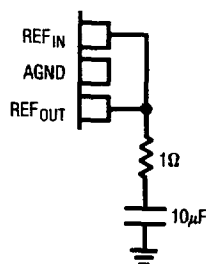
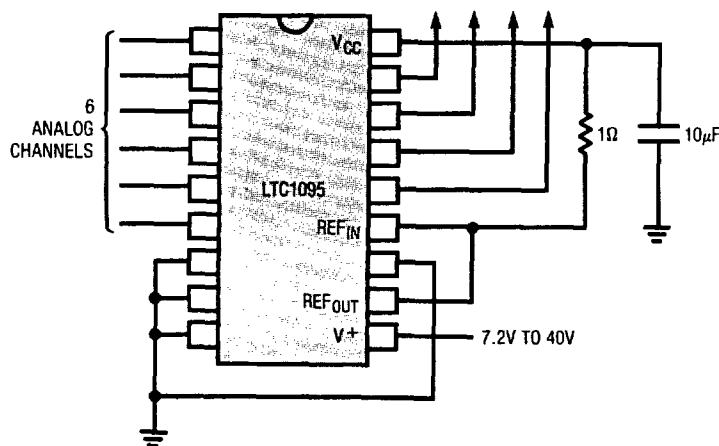

Figure 15. Suggested Circuit for  $REF_{IN}$  Tied to  $REF_{OUT}$
Figure 16. LTC1095 Single Supply Operation
The LTC1095 contains an internal precision 5V buried zener reference which is capable of supplying the full scale reference for the converter when connected as shown in Figure 15. With its 10mA output current the reference can also power the A/D and other external circuitry to provide a TTL input/TTL output system running off a single 7.2V–40V supply (see Figure 16).
3. It is recommended that  $REF_{IN}$  be tied to  $REF_{OUT}$  as shown in Figure 15.